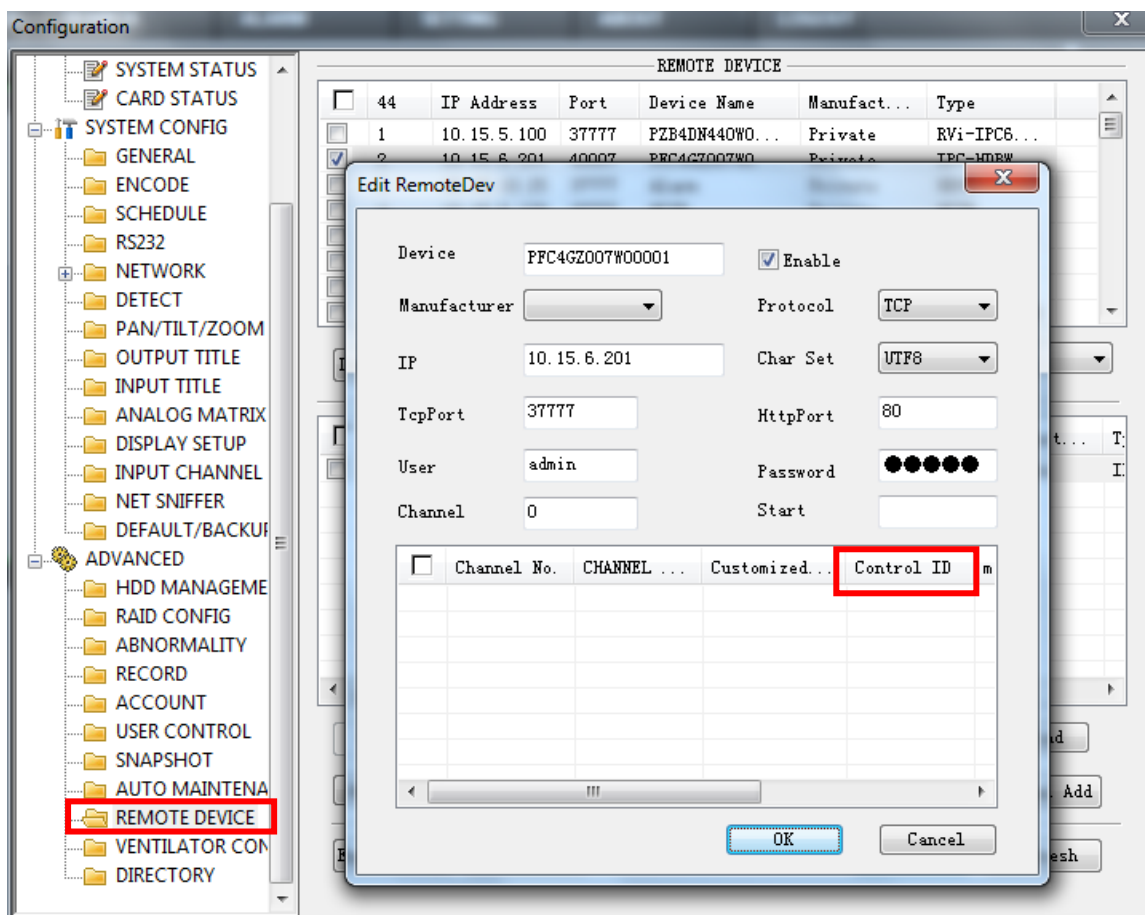

Figure 7-3
- From **【Setting】** -> **【Remote Device】**, double click the signal source, you can edit the control SN of the remote device. See Figure 7-3.